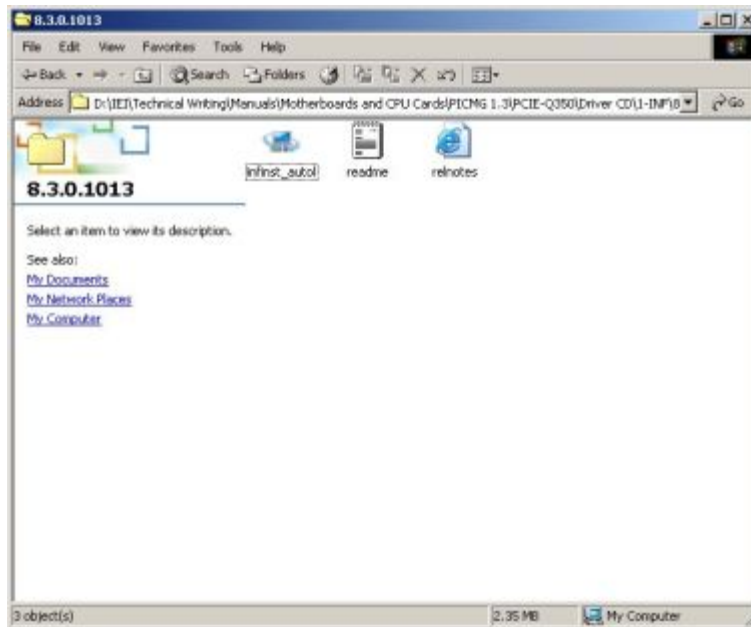

Figure 7-4: Intel® Chipset Driver Setup Icon
Step 5: The window in **Figure 7-4** appears.
Step 6: Click on the `infnst_autol` setup icon in **Figure 7-4**.